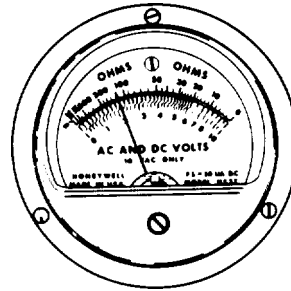

Figure 5-14. Reading DC Volts Scale AN/URM-105
(3) Read the meter. (Figures 5-14 thru 5-16 show how to read all three multi meters.)